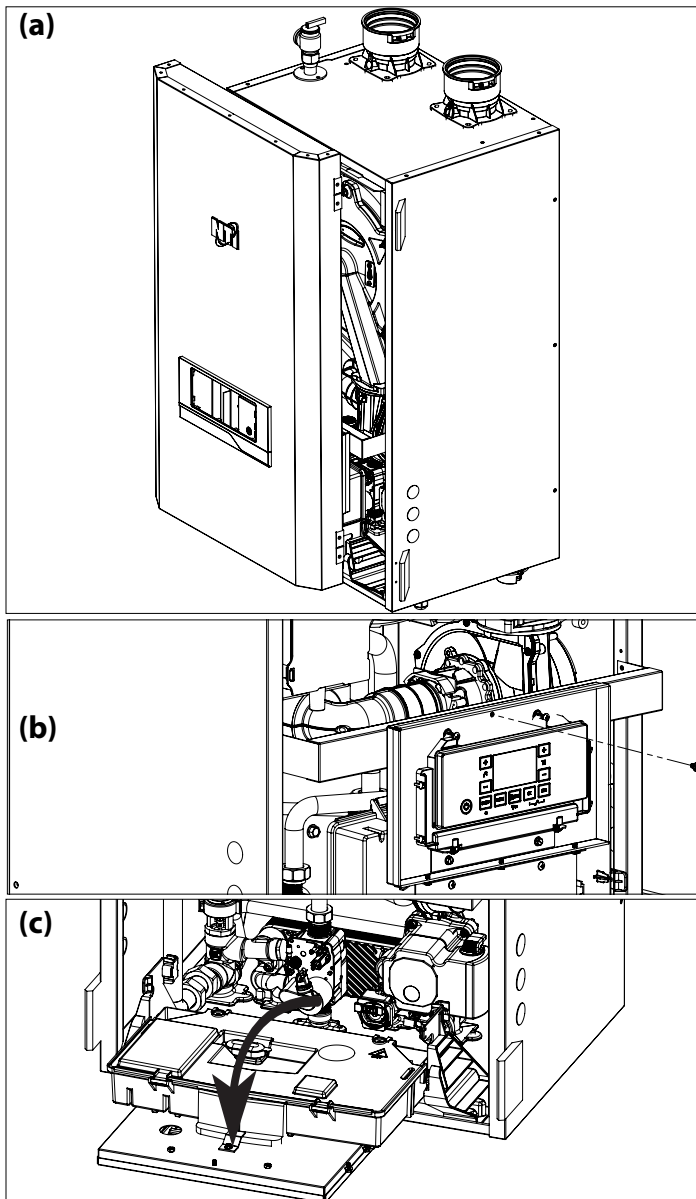

Figure 82 - Removing the Cover and Control Panel Housing
See Figure 82 to access the interior of the boiler:
- Remove the front panel as shown in Figure 82.